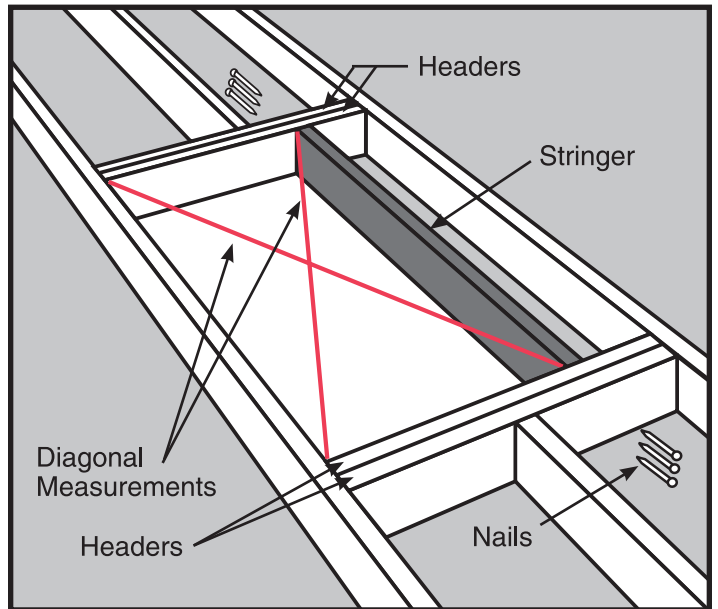

Figure 18
- STEP 4.** Position the stringer(s) along the unframed side(s) of your location (See Figure 18). Check that the inside dimensions of the frame are 22-1/2” x 54” (99220-001) or 25” x 54” (99250-001).
- STEP 5.** To attach the stringer(s) to the headers, use nails that are long enough to go through both headers and into the stringer at least one inch. Square the stringer(s) to the headers at one end and drive (3) 16d nails through the headers and into the stringer. Check for squareness, then nail the other end. Check the rough opening for squareness by measuring across the diagonals. **The two measurements should be within 1/8” to be considered square** (See Figure 18).